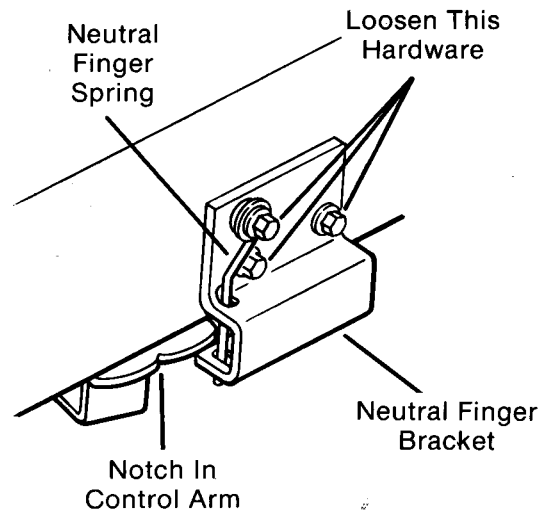

**FIG. 71**
- C. Point front wheels straight ahead. Block both sides of each front wheel and right rear wheel, to prevent rolling. (Fig. 71)
- E. Raise and block left rear wheel off ground just far enough to let wheel turn freely. (Fig. 71)
- C. Point front wheels straight ahead. Block both sides of each front wheel and right rear wheel, to prevent rolling (Fig. 71).